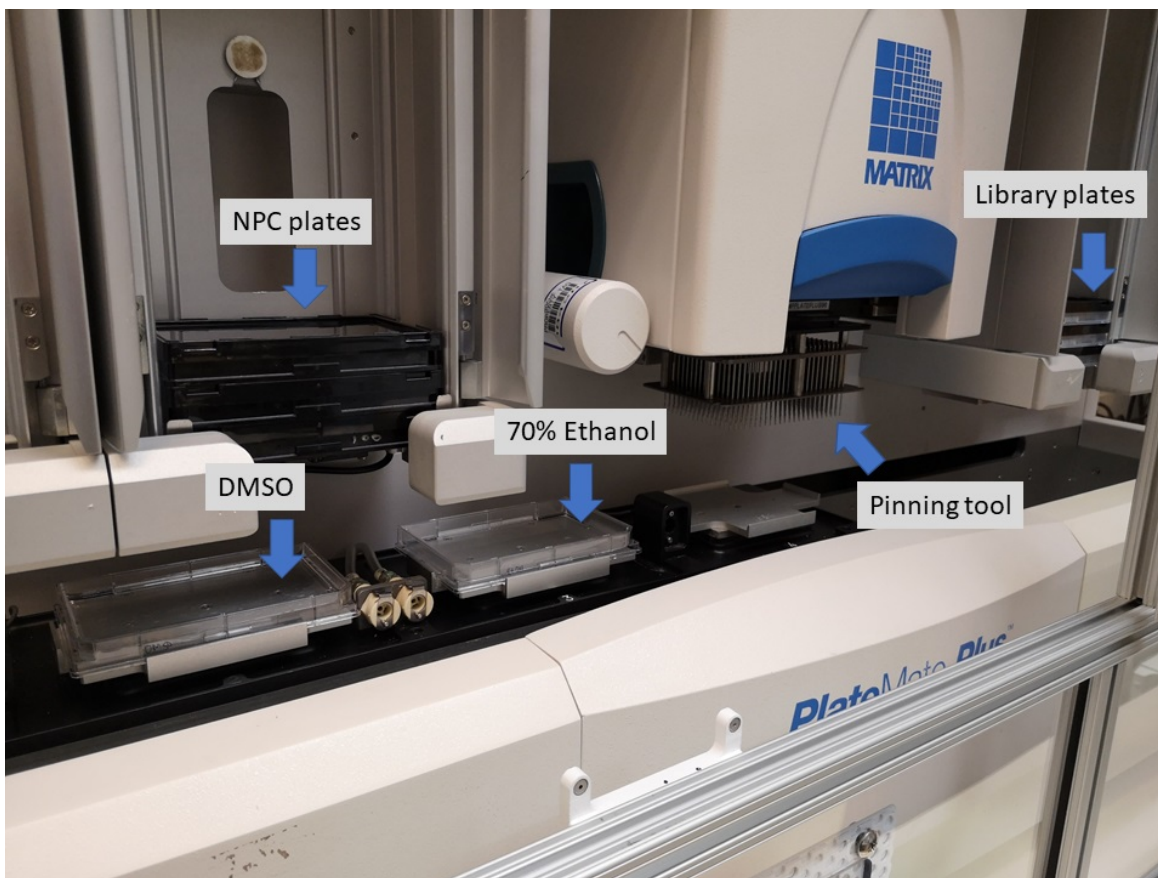

Figure 3. Overview of initial plate and tool positions in Matrix PlateMate Plus.
3. Spray the cassette with 70% ethanol before placing it in the EL406 Washer Dispenser (**Figure 3 A** shows cassette position for dispensing).
Figure 3. Cassette positions in EL406. A) Tubing under tension, ready for dispensing. B) ‘Relaxed’ position to release tube tension and allow outflow by gravity.
5. Place the cassette in a ‘relaxed’ position to empty the lines by gravity (**Figure 3 B**).